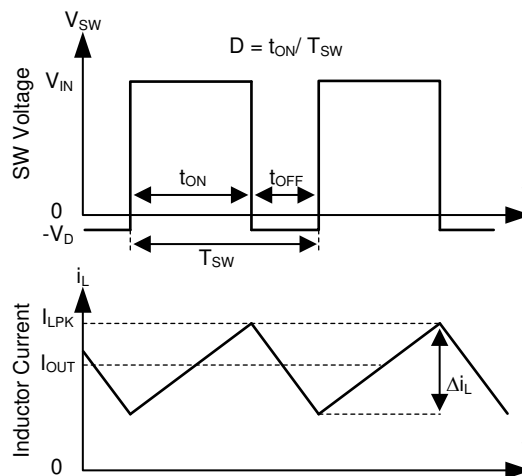

图 8-1. SW Node and Inductor Current Waveforms in Continuous Conduction Mode (CCM)
The following operating description of the LMR23630 refers to # 8.2 and to the waveforms in 图 8-1. The LMR23630 is a step-down synchronous buck regulator with integrated high-side (HS) and low-side (LS) switches (synchronous rectifier). The LMR23630 supplies a regulated output voltage by turning on the HS and LS NMOS switches with controlled duty cycle. During high-side switch ON-time, the SW pin voltage swings up to approximately  $V_{IN}$ , and the inductor current  $i_L$  increase with linear slope  $(V_{IN} - V_{OUT}) / L$ . When the HS switch is turned off by the control logic, the LS switch is turned on after an anti-shoot-through dead time. Inductor current discharges through the LS switch with a slope of  $-V_{OUT} / L$ . The control parameter of a buck converter is defined as duty cycle  $D = t_{ON} / T_{SW}$ , where  $t_{ON}$  is the high-side switch ON-time and  $T_{SW}$  is the switching period. The regulator control loop maintains a constant output voltage by adjusting the duty cycle  $D$ . In an ideal buck converter, where losses are ignored,  $D$  is proportional to the output voltage and inversely proportional to the input voltage:  $D = V_{OUT} / V_{IN}$ .